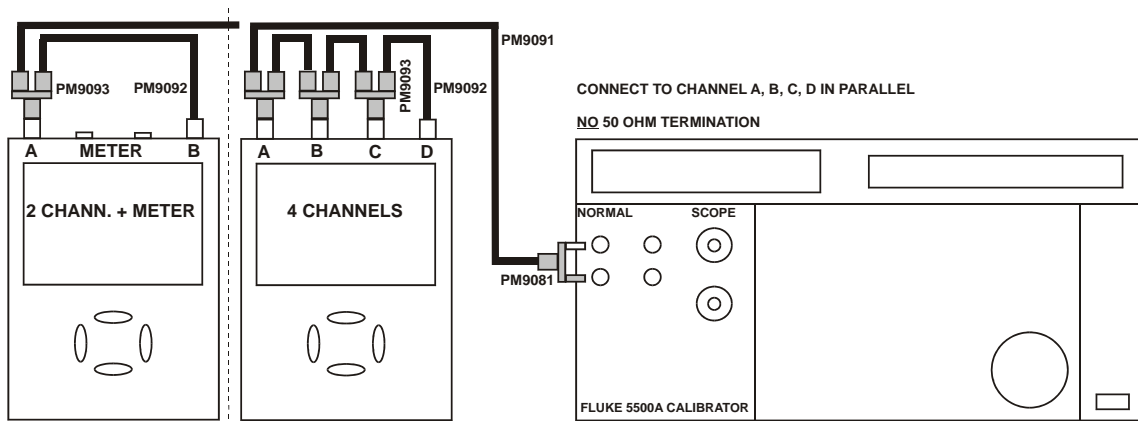

Figure 4-4. Test Tool Inputs A, B, C, D (A, B) to 5500A Normal Output
Connect the Test Tool to the 5500A as shown in see Figure 4-4.
1. Connect the Test Tool to the 5500A as for the previous test (see Figure 4-4).